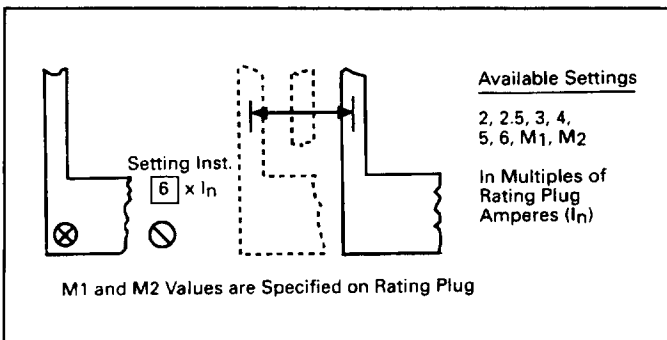

Fig. 8.5 Instantaneous Current Settings
There are eight (8) available Instantaneous Current Settings, as illustrated in Fig. 8.5. Six settings are in the range from 2 to 6 times the rating plug value (I_n), and the other two settings are "M1" and "M2" times (I_n). The val-